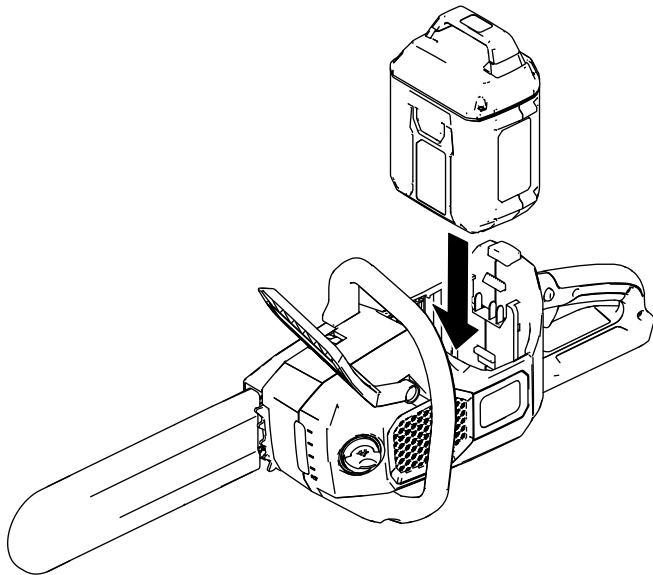

Figure 8
3. Align the tongue of the battery pack with the battery cavity in the chain saw (Figure 8).